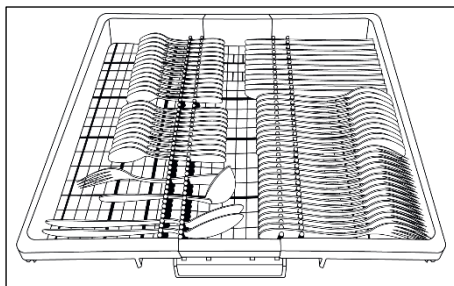

Figure 6
- The outlet hose should discharge into a standpipe, making sure that there are no kinks (fig. 6).
Use the third basket to load the cutlery, as shown in the image (fig.6).